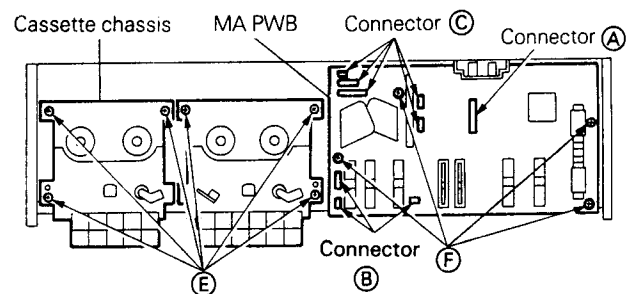

Fig. 7
4. Cassette chassis (Fig. 7)
5. MA P.W.B. (Fig. 7)